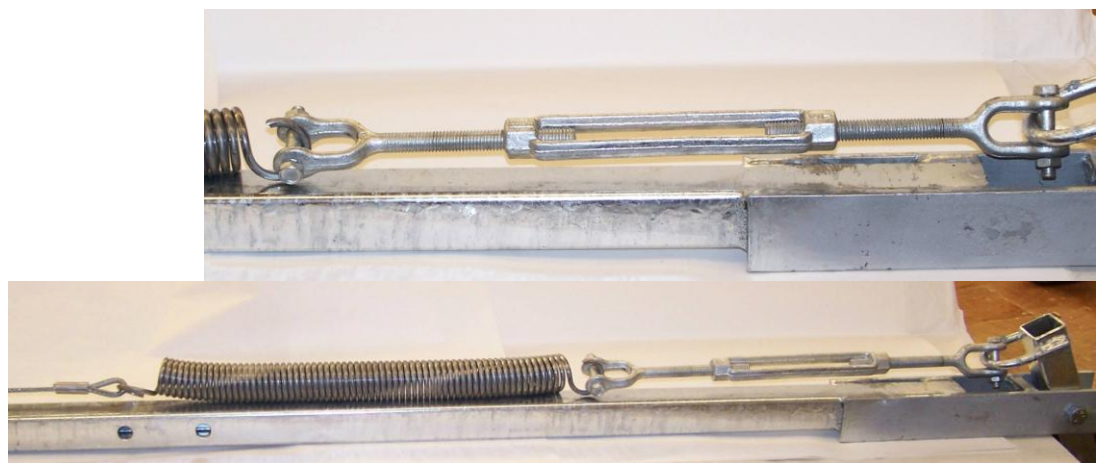

Figure 9 & 10
9. Extended width tower leg assembly, use the supplied turnbuckles to connect the spring and Lever Arm (Figure 9&10). Loosen both turnbuckles as far as you can, attach one end to the Lever Arm and the other end to the spring. Refer to step 8 for final assembly. Tighten the turnbuckles equally until there is 70-90lbs of tension on each arm.